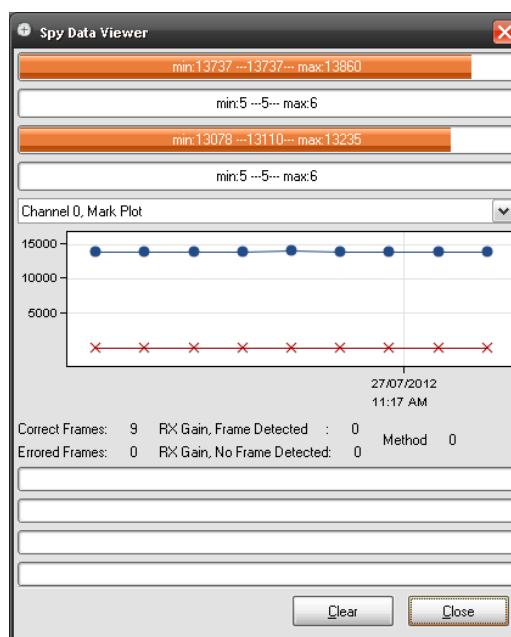

Figure 17. The Terminal Spy Window Graphically Shows the Current and Historical Signal and Noise Levels
- The ON-PL110 and IEC firmware can report the signal and noise values when frames are received. This can be very helpful during debugging; to enable it, issue set 3300 = 1. The reported values can be shown graphically in the spy window (depicted in Figure 17) with the *spy* command. The last reported levels are displayed by the four top bars; the historical levels are rendered in the graph below.